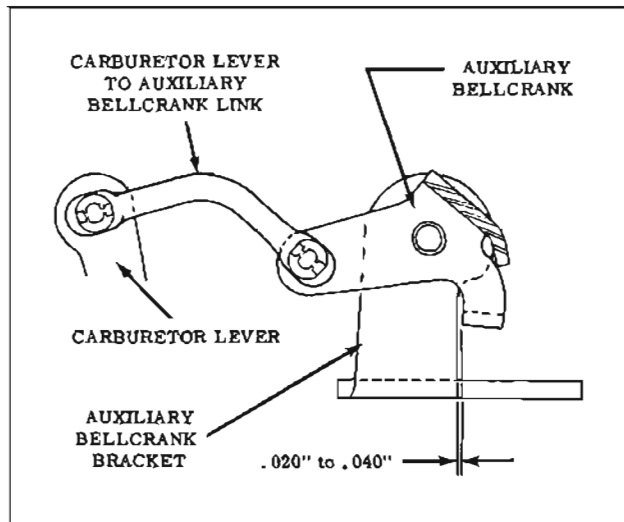

Fig. 7-4 Carburetor Lever to Auxiliary Bellcrank Adjustment (2 Barrel)
- b. 2GC - Repeat Step "a" with the exception that the clearance is measured between the auxiliary bellcrank bracket, bolted to the manifold, and the auxiliary bellcrank. (Fig. 7-4)